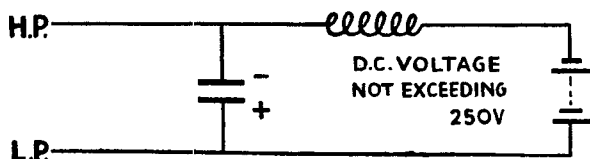

Fig. 7
(2) Condenser is connected in parallel with choke of value greater than 30H. D.C. polarising voltage is applied from battery and Electronic Testmeter leads are then connected across the condenser. (See Fig. 7.)